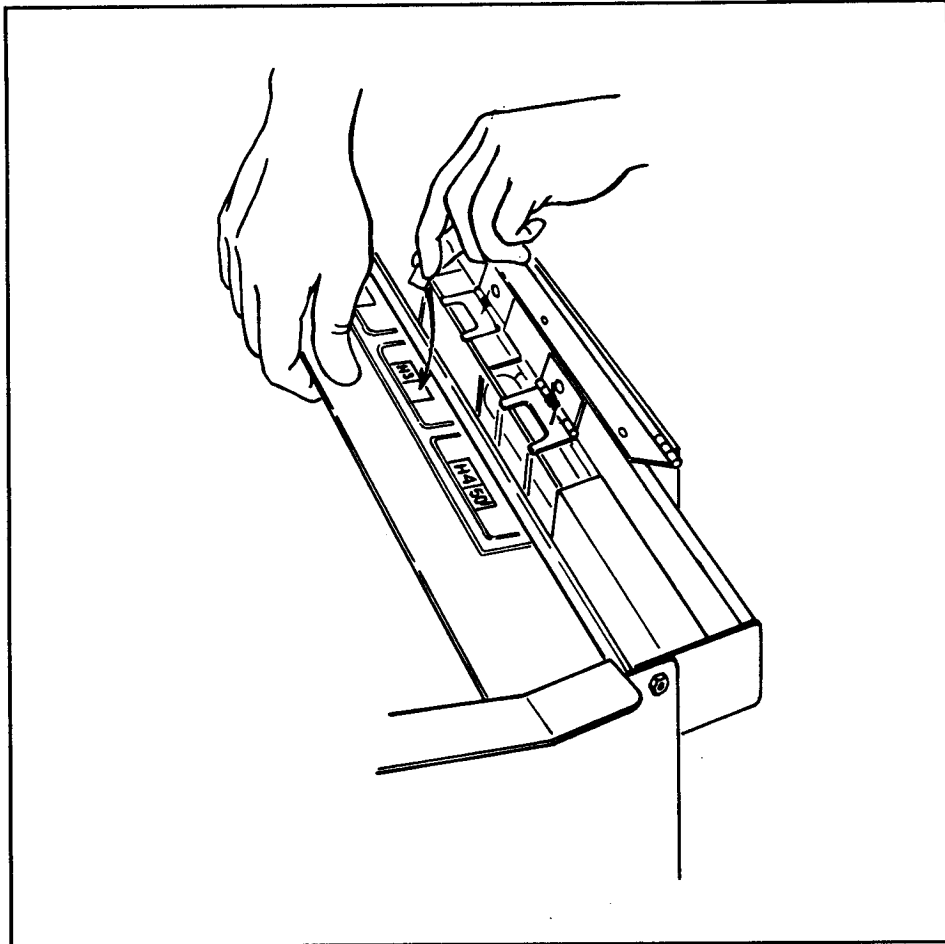

Figure S-34a
- * Stick the desired price label next to the column ID number as shown in Figure S-34a.